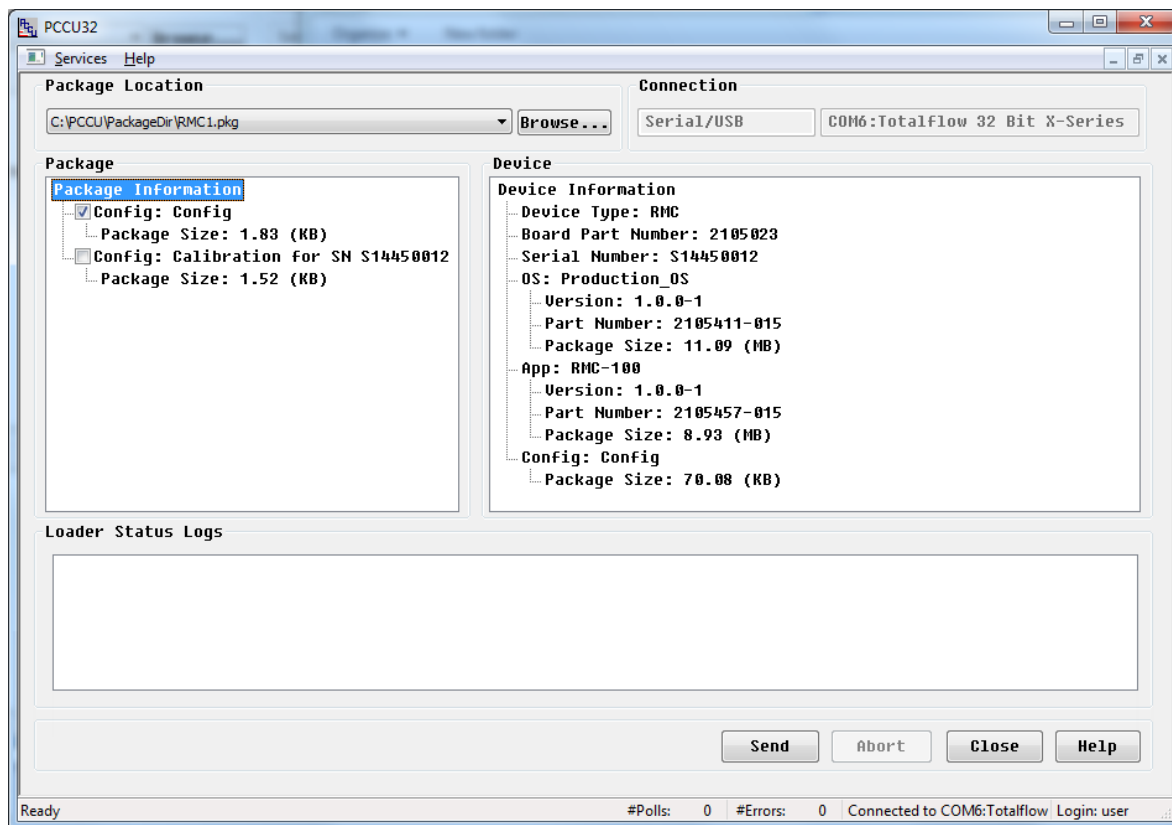

Figure 78: Using configuration file from another RMC
6. Locate and select the configuration file package and click **Open**. The selected package details display in the Package field (Figure 78).